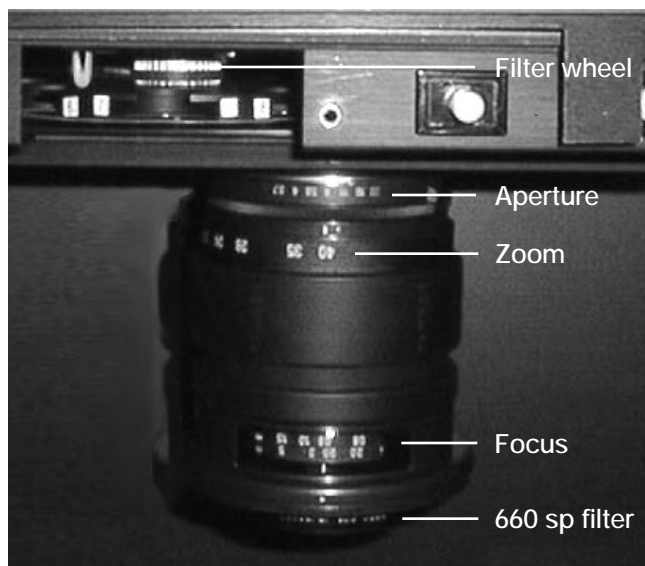

Fig. 5. Fluor-S zoom lens.
- Select the zoom setting and focus the lens with the aperture fully open (see Figure 5).